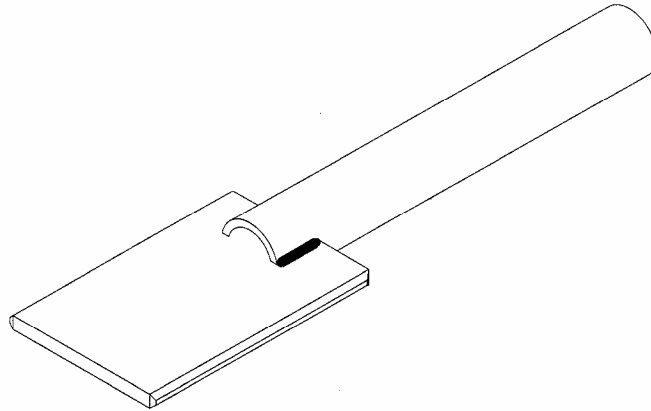

Figure 1 – RST Coupling Tool
2. Insert the RST Coupling Tool (Figure 1) half way into the casing.